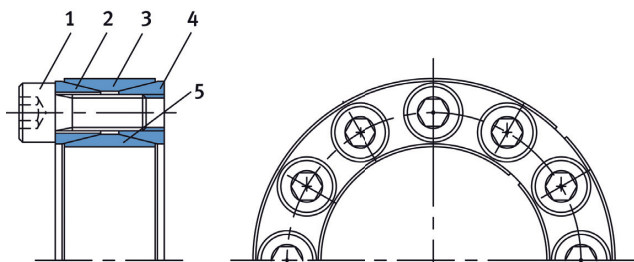

Fig. 1
Prior to installation, the clearances and the surface quality of the connected structure are to be checked. The locking assembly is delivered lightly oiled in a ready-for-installation condition. After prolonged storage or in the case of a reinstallation, all contact surfaces (Fig. 1), the threads and the screw head contact surfaces must be covered by a thin oil film.
Step 3: Tighten locking screws (Fig. 1, Item 1) slightly until they are in contact with the contact surfaces of the shaft and the hub. While doing this, the hub must be aligned accordingly.